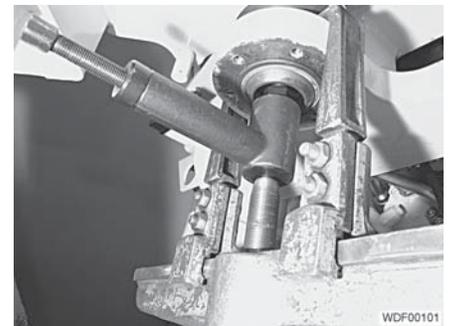

Fig. 291 Removing the shaft
- ▷ If necessary, use a hydraulic tool (Fig. 291) to pull off, drive out or drive in the pivot bearings (e.g. hydraulic hand pump).
- Using a suitable removal tool, press the shaft of the front carriage up and out of the lower bearing (Fig. 291).